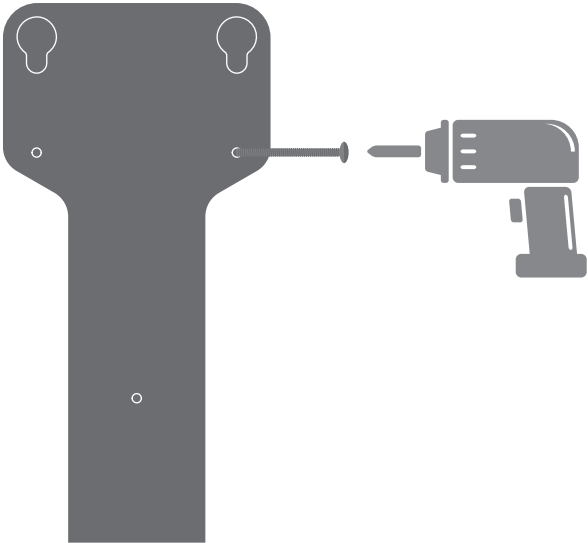

Fig. 5-7
5. Fix the bracket to the wall with the expansion screws (See Fig. 5-7) included in the package.